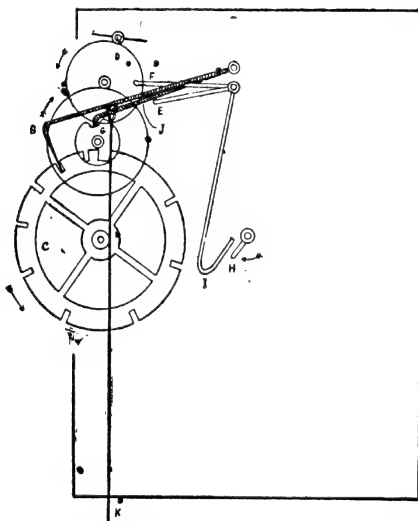

FIG. 85.—American Locking-plate Striking Work.
• **American Locking Plate Striking Work.**—Fig. 85 shows a typical American striking movement. The locking plate C is generally mounted upon the front plate, though it is sometimes upon the main wheel between the plates. The locking arm B dips into the slots in the locking plate and its inside arm rests upon the cam G, as in an English locking-plate clock. A is the letting off lever and is between the plates, its second arm E raises B, and its third arm F acts as a warning lever. Its lowest arm I is raised by the projecting wire H on the centre arbor.